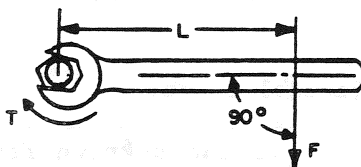

Figure 5.18. Wrench Without Adaptor
2. In Figure 5.18 the lever length of the wrench from the center of the nut to the center of the hand applying the force is represented by "L". The applied force is indicated by "F". Since torque "T" is the product of the applied force multiplied by the effective lever length, it can be calculated by using the formula: $T = F \times L$.